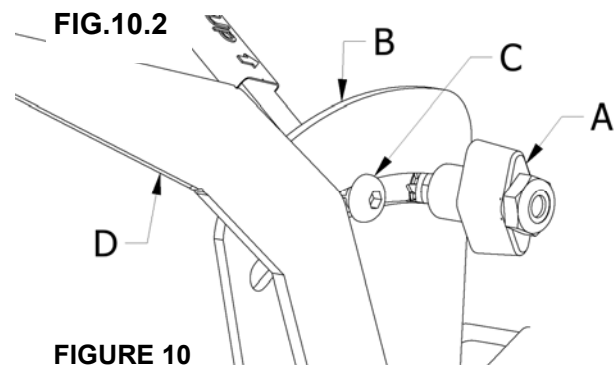

FIGURE 10
This machine uses a familiar 3-hole cyclone type spreader mechanism, and comes factory set to broadcast spread a pattern width of 14 ± 1 FEET (4.3 ± 0.3 meters). Using a 7 ± 1 FOOT (2.1 ± 0.3 meters) overlap travel pattern provides an even distribution of most products. **NOTE:** Actual spread pattern width and overlap may vary based on your calibration (refer to Spreader Calibration in this section). Referring to **FIGURE 10**: A Deflector Lever (A) remotely controls a Deflector to cut off the right side of the spread pattern for trimming. A Third-hole Lever (B) remotely controls a Third-hole Adjustment Plate that should be used with the Deflector to compensate for the amount of product required while trimming and to balance the spreader pattern for even distribution. An opening and closing Hopper Lever (C) remotely controls the delivery of granular material from the Hopper. A Rate Adjustment Knob (D) adjusts the amount of product delivered when the hopper is open. The sprayer can be operated at the same time the spreader is in use, and the seven-foot overlap pattern is also effective for the sprayer.